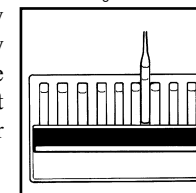

Figure 5
- b. Hold the high range comparator in a nearly horizontal position while standing directly beneath a source of light. Place the ampoule between the color standards moving it from left to right along the comparator until the best color match is found (fig 5).